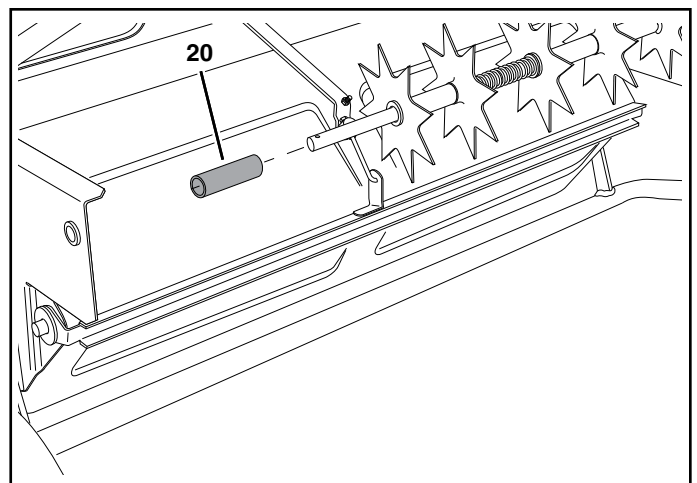

FIGURE 19
- Place a long spacer tube (20) onto the shaft. See figure 19.